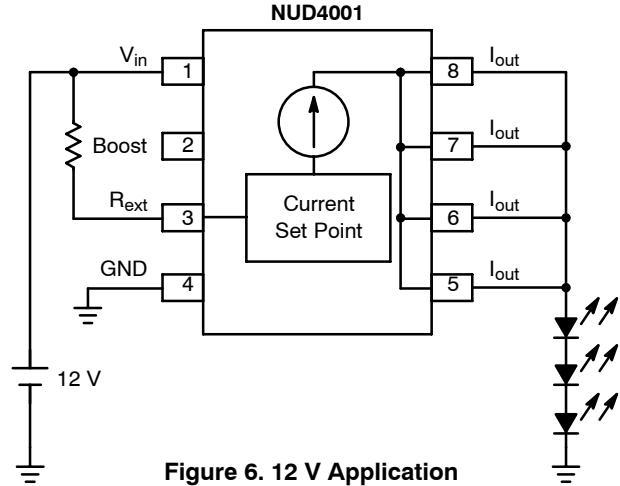

Figure 6. 12 V Application (Series LED's Array)
- a. Per example in Figure 6,  $V_{in} = 12 \text{ V}$
- a. Per example in Figure 6,